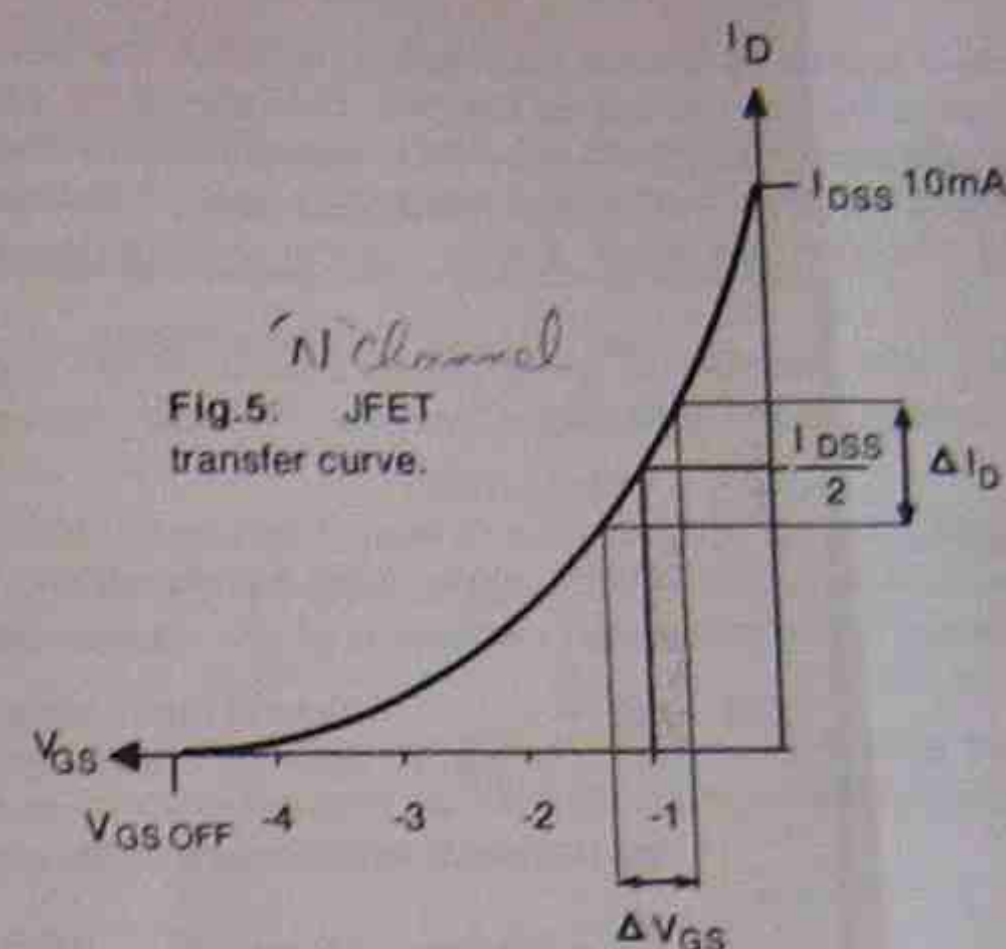

Fig. 5: JFET transfer curve.
The transfer curve for a JFET can be determined experimentally by measuring its drain current for a range of gate-source voltages. There is a mathematical relationship between these two values that applies to all FETs, and thus the transfer curve for a JFET always has the same shape, but with different values for  $I_{DSS}$  and  $V_{GS OFF}$ . An important feature to note about the transfer curve is that the relationship between the drain current and the gate-source is non-linear. For an amplifier, this will mean distortion unless the FET is operated only over a linear portion of the curve. This is achieved by selecting a quiescent value of  $V_{GS}$  that is central to the most linear part of the curve and ensuring that the input signal doesn't cause  $V_{GS}$  to operate the FET on the non-linear part of the curve. For the purposes of these notes, the quiescent point is chosen as being that value of  $V_{GS}$  that gives a drain current equal to half  $I_{DSS}$ . However, this is not necessarily the optimum operating point, but it makes calculations easier. The transfer curve for a JFET is shown in Fig.5.
For the transfer curve of Fig.5, note the following:
**EXAMPLE:** For the circuit of Fig. 5, given that the supply voltage ( $V_{DD}$ ) is 10V and the FET has the transfer curve shown in Fig. 5, calculate the following:
$$V_{GS} = -1 \text{ V (from transfer curve, Fig. 5)}$$